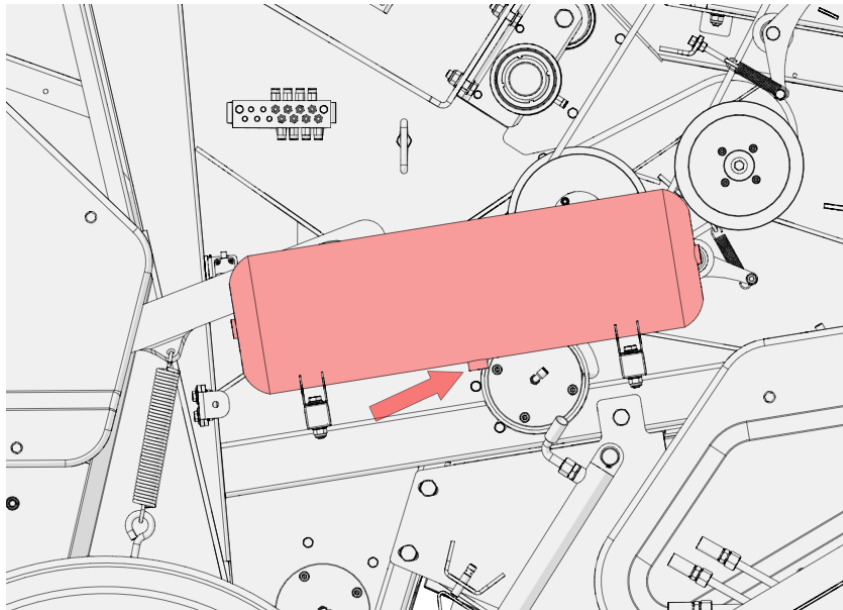

Figure 8. Emptying the brake system tank
- Pull the pin of the tank drain valve (Figure 8)